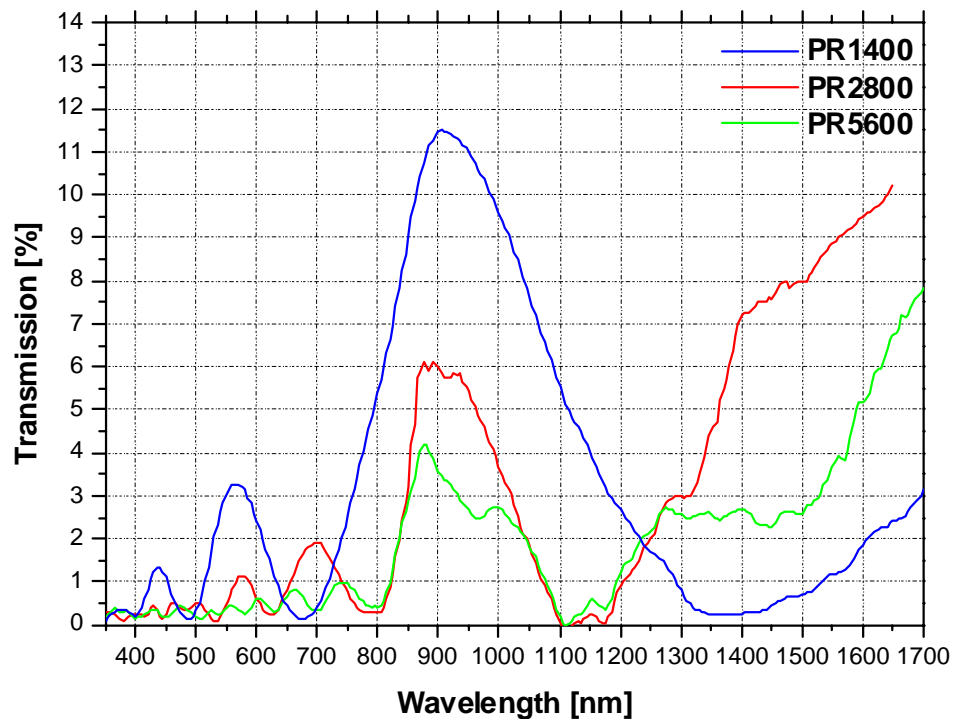

Fig 6: Measured transmission (when placed between two Glan-Thomson polarizers) for the three standard models
- 1) Use the ArcOptix digital LC Driver that has two independent outputs that are computer controlled via USB and optimized for liquid crystal device driving (see figure 6). It generates a square signal of 1.6 KHz with variable amplitude between 0V and 9V. The LC driver produces a highly stable signal with a precision of 1mV. However only two levels are relevant for driving the cell 0V and 9V (e.g. minimal and maximal value) for switching off and on the TN cell. External trigger can be obtained on demand.